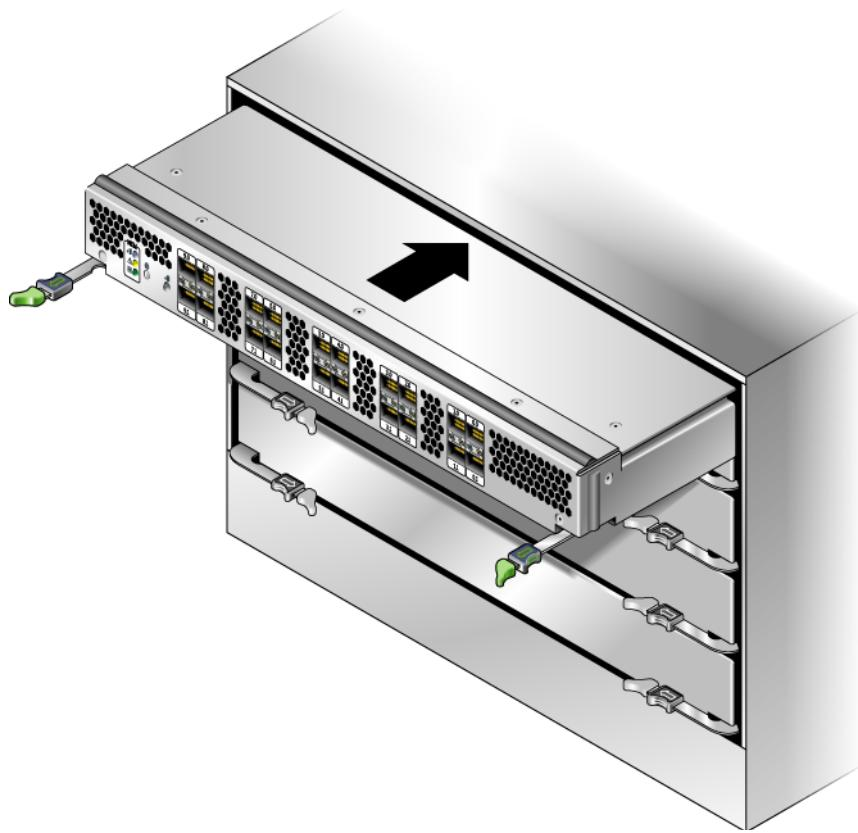

FIGURE 2-2 Inserting the NEM Into the Chassis
6. Align the NEM with the chassis guidance system and slide the NEM into its slot (see FIGURE 2-2).